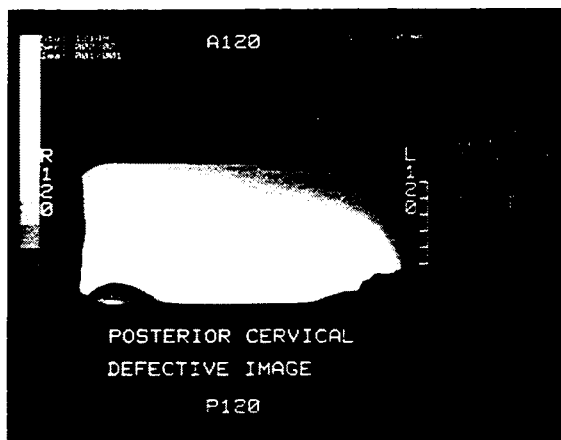

FIGURE 2—UNSUCCESSFUL DECOUPLING
- 3.3 If prescan ends abnormally, or the surface coil images show hot spots, light and dark bands, or gross distortion as shown in Figure 2, the transmit decoupling network is suspect. Follow procedure in Sec. 4 and 5 for repair.